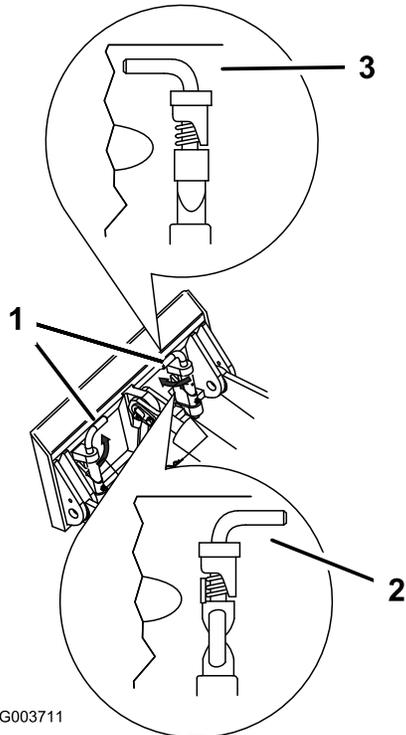

Figure 10
7. Engage the quick-attach pins, ensuring that they are fully seated in the mount plate (Figure 10).